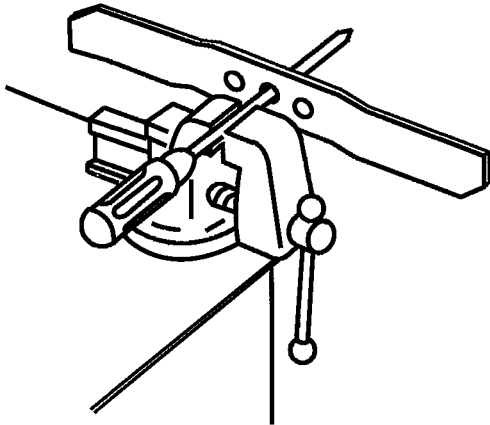

Figure 25
1. Check the balance of blade by placing the center hole of blade over a nail or screwdriver shank clamped horizontally in a vise (Fig. 25).